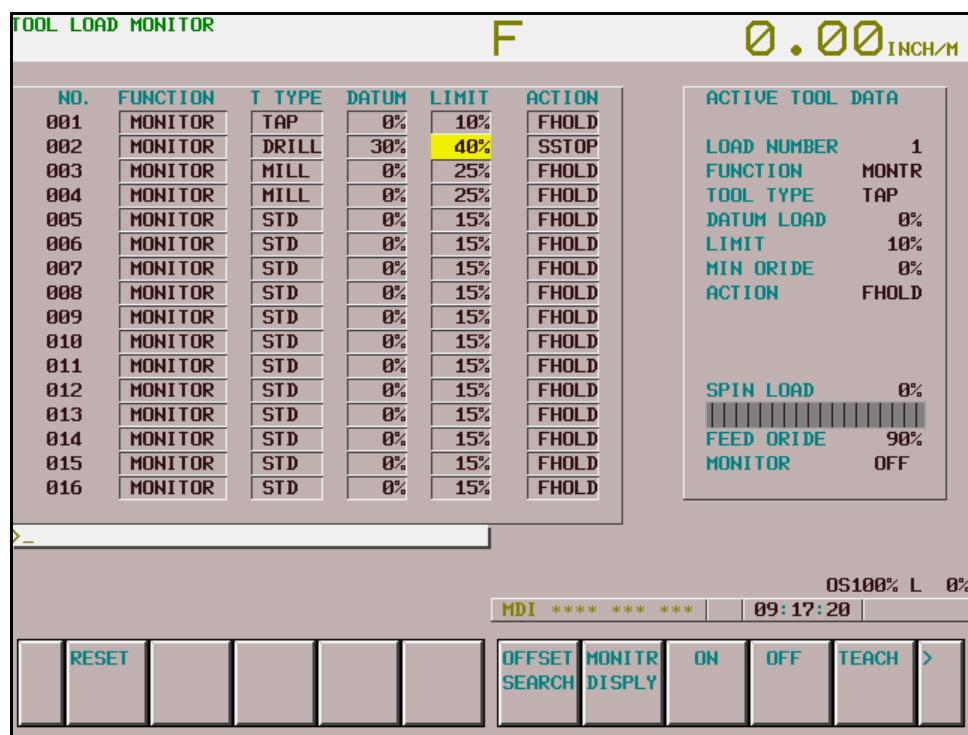

Figure 4-13: Limit
- Use the cursor keys to highlight the tool number required in the Limit column (Figure 4-13):.